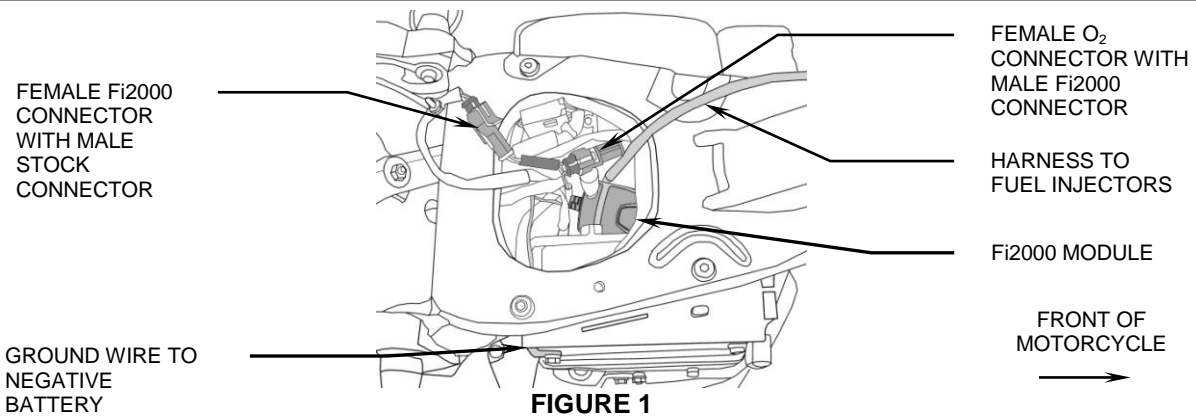

FIGURE 1
3. Lay the Fi2000 module in the area underneath the seat, do not attach it to the motorcycle, route the fuel injector harness forward up the left side of the frame using the plastic harness protector and across to the right side just ahead of the rear cylinder head, See Figure 1. Route the forward set of connectors under the upper motor mount.
7. It is now time to install the oxygen sensor harnesses. Cut the factory zip-tie holding the rear fender wire harness to the ECU bracket and pull that harness up and out of the way, see Figure 1. Reach down and pull the remaining wiring up and out of the space between the battery box on the right and the ECU electrical box on the left. Feed the longer of the two oxygen sensor harnesses down between the rear fender and the frame. Pull the harness from underneath and route it just ahead of the swingarm, then down just behind the rear master cylinder so that the harness ends up coming out at the bottom of the bike. Route the O₂ sensor harness forward along the right frame rail and stock harness with the Fi2000 O₂ connectors ending up by the front of the engine.
10. Locate the black waterproof connector in the wire harness bundle that was tucked down into the open area under the seat, see Figure 1. Unplug the female connector that comes from the rear oxygen sensor, and mate it with the male connector from the shorter Fi2000 O₂ sensor harness. Mate the stock male connector with the female Fi2000 connector.
12. Remove the backing from the Velcro and attach the Velcro pad down between the back of the battery and the ECU on the flat area of the frame. Apply the mating Velcro to the back of the Fi2000 and attach, see Figure 1. Replace the rear fender wire harness above the Fi2000.